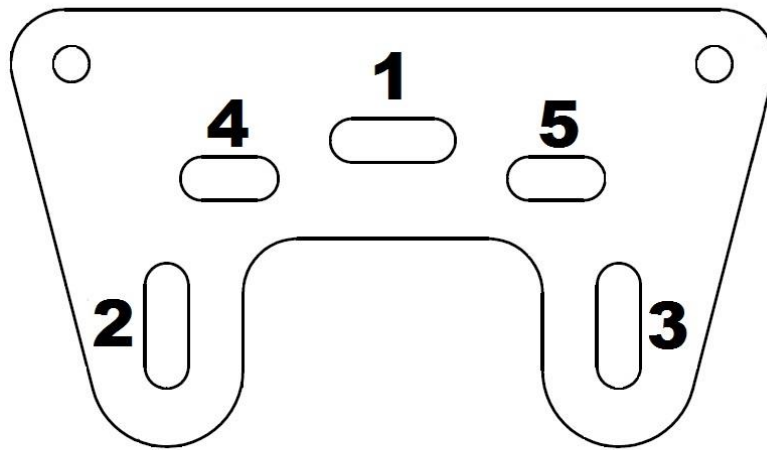

Figure 4
5. Using a $\varnothing 10$ drilling bit, drill rawplug holes in the marked points. Holes shall be drilled in specific sequence, starting from number 1 (as marked on the template block) (**Figure 4**). After drilling whole number 1 move to drilling holes 2 and 3. Then drill holes number 4 and 5. Repeat the sequence on the other side of the slot.